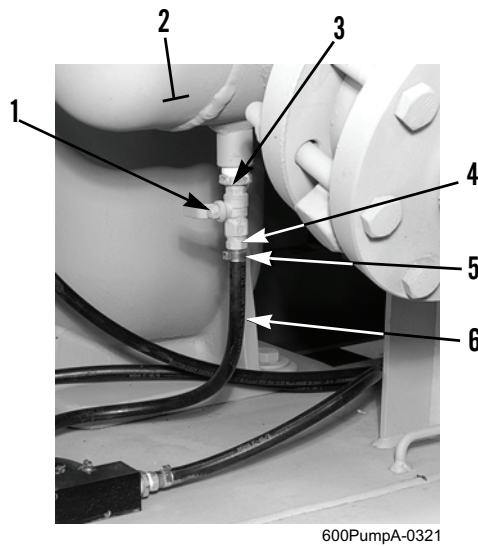

Figure 1. Discharge Manifold Drain Valve and Hose.
2. Cut hose clamp (Figure 1, Item 5), hold discharge manifold drain hose (Figure 1, Item 6), and remove barb fitting (Figure 1, Item 4) and discharge manifold drain hose from discharge manifold drain valve (Figure 1, Item 1). Discard hose clamp.
3. Remove reducer fitting (Figure 1, Item 3) and drain valve (Figure 1, Item 1) from discharge manifold (Figure 1, Item 2).